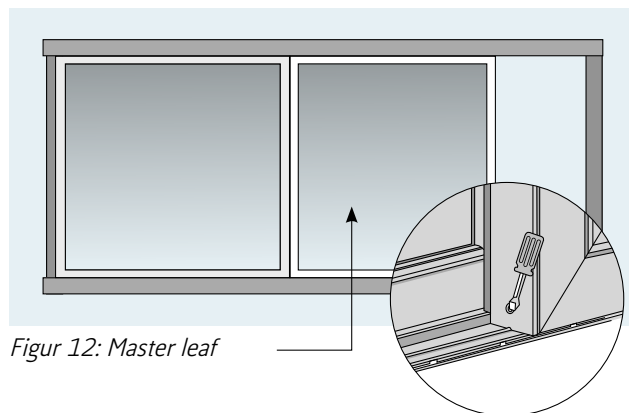

Figure 12: Master leaf
19. Remove the plug at the bottom of the master door using a socket screwdriver (figure 12).